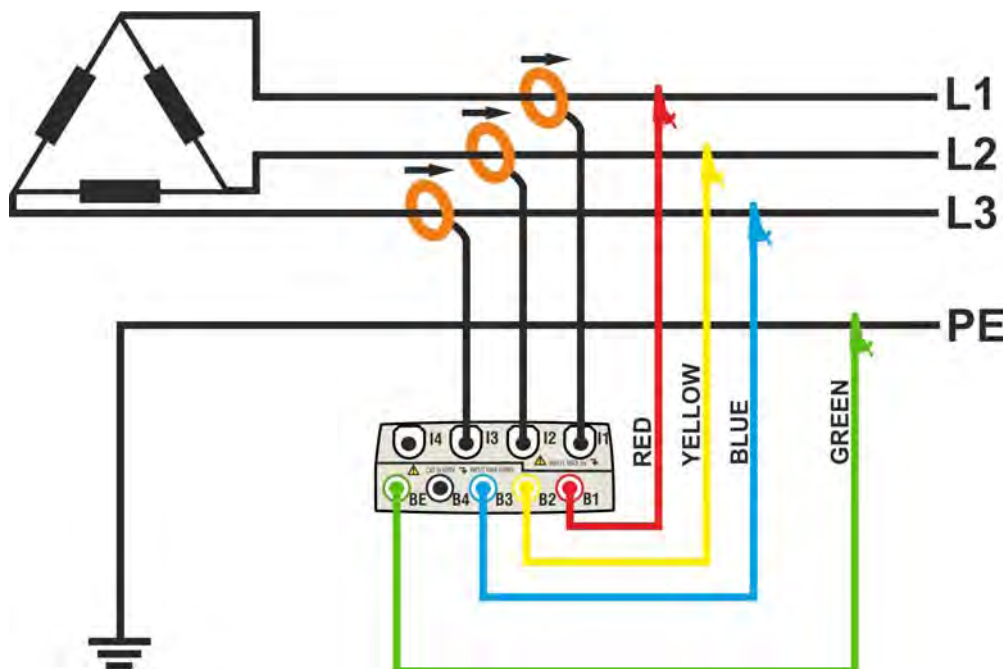

Fig. 121: Meter connection in a 3-phase 3-wire ARON system – ENG_UK type
2. Connect voltage test leads on Phases L1, L2, L3, and Ground cables considering the colours as shown in Fig. 121. **Verify the result “123” at display relative to a correct phase sequence indication** (see § 5.2.1) and perform the corrections if necessary.
3. Connect the transducer current clamps on Phase L1, L2, L3 cables as shown in Fig. 121 respecting the clamp's arrow direction indicating the current standard sequence from generator to load. **On Real Time Values' section screens (selecting a 3 wire system preliminarily) always verify the positive value of Active Power and the power factor relative to load which should be normally inductive** before starting a recording. Reverse the clamp by 180 degrees on cables in case of negative readings.